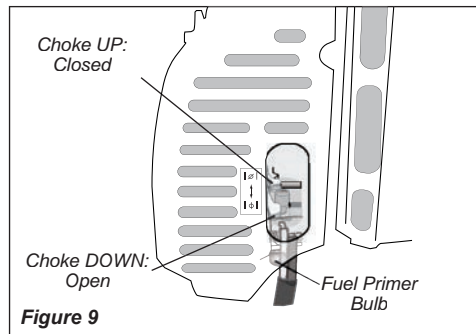

Figure 9
3. **Cold Engine Only.** Choke the engine by moving the choke lever up (choke is closed). See Figure 9.